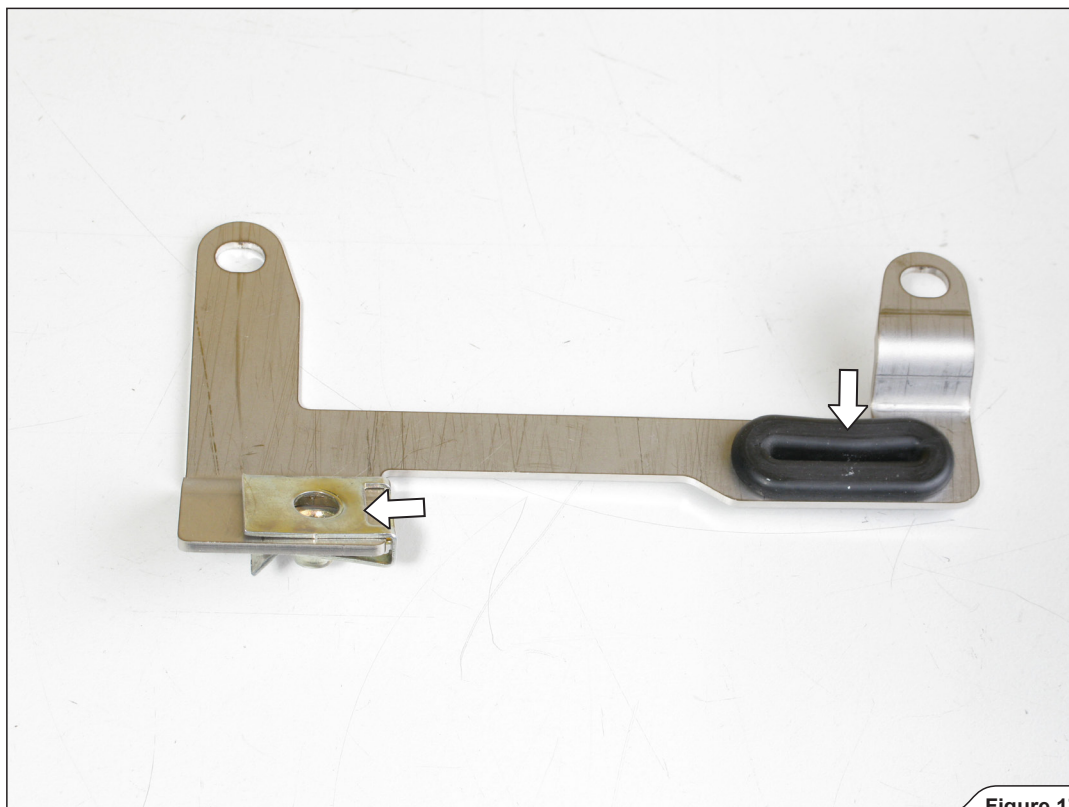

Figure 17
3. **For Z1000 model only:** assemble stock rubber damper and press-on nut from Akrapović installation kit, onto the additional bracket (**Figure 17**).